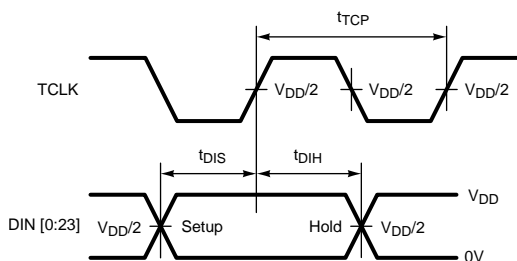

Figure 5. Serializer Setup/Hold Times
| t TCP  | Transmit Clock Period      | Figure 5 (1) | 25   | T    | 333  | ns          |
(1) Figure 5, Figure 15 show a rising edge data strobe (TCLK IN/RCLK OUT).
(2) tJIT (@BER of 10e-9) specifies the allowable jitter on TCLK. tJIT not included in TxOUT\_E\_O parameter.
(1) Specification is guaranteed by characterization and is not tested in production.
(2) Figure 5, Figure 15 show a rising edge data strobe (TCLK IN/RCLK OUT).